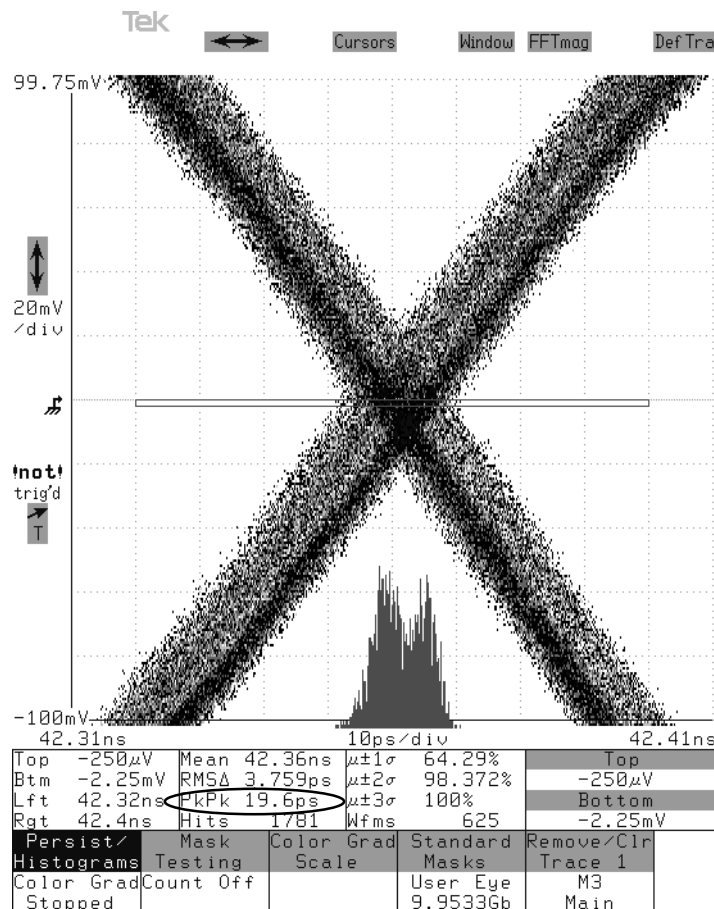

Figure 26: Histogram deterministic jitter measurement
- o. Set the oscilloscopes DISPLAY MODE to generate a horizontal histogram. Select and then adjust the VERTICAL LIMITS to create a rectangular histogram box 2 mV in vertical height and placed such that it intersects across the crossing of the eye (see Figure 26).